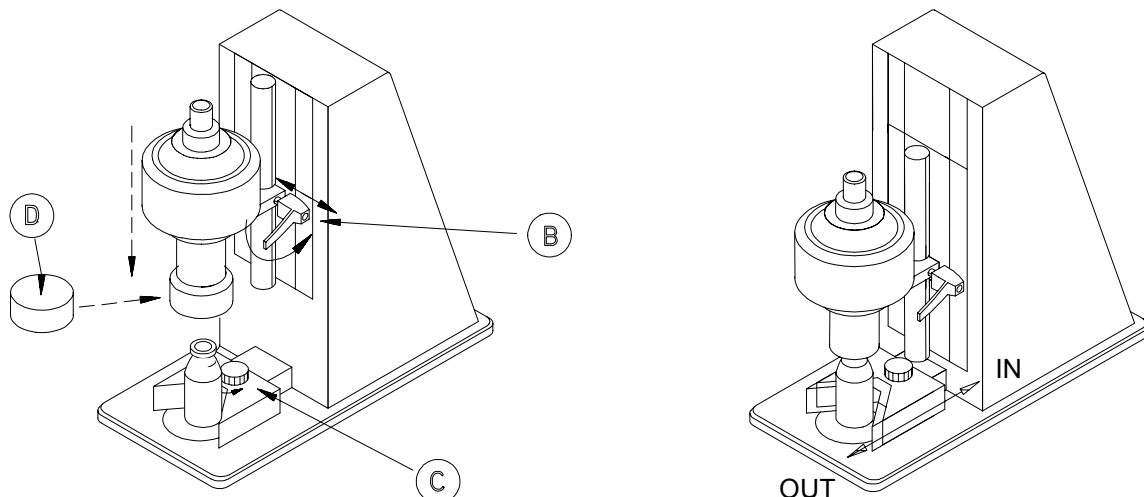

Fig. 3
4. Now adjust the bottle holder so the bottle is centred under the capping head – WHEN THE BOTTLE HOLDER IS PUSHED "IN" (see fig 3)